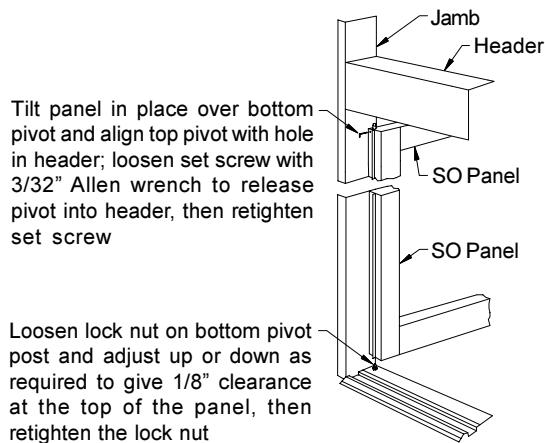

Figure 14. Panel Installation Detail
2. If necessary, remove panel and adjust bottom pivot post to give the required 1/8" clearance at the top of the panel (**Figure 14**).